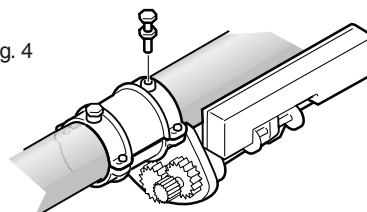

Fig. 5
- Place the shutter screen on the shaft and the motor and drill an Ø12 mm hole on the first strip of the screen aligned with the M10 threaded hole on the motor crown. Spin the crown manually for approximately 1.5 revolution to the plastic wheel close to the micro-switch 1 (closing), make sure that the system spin smoothly. (Fig. 5)